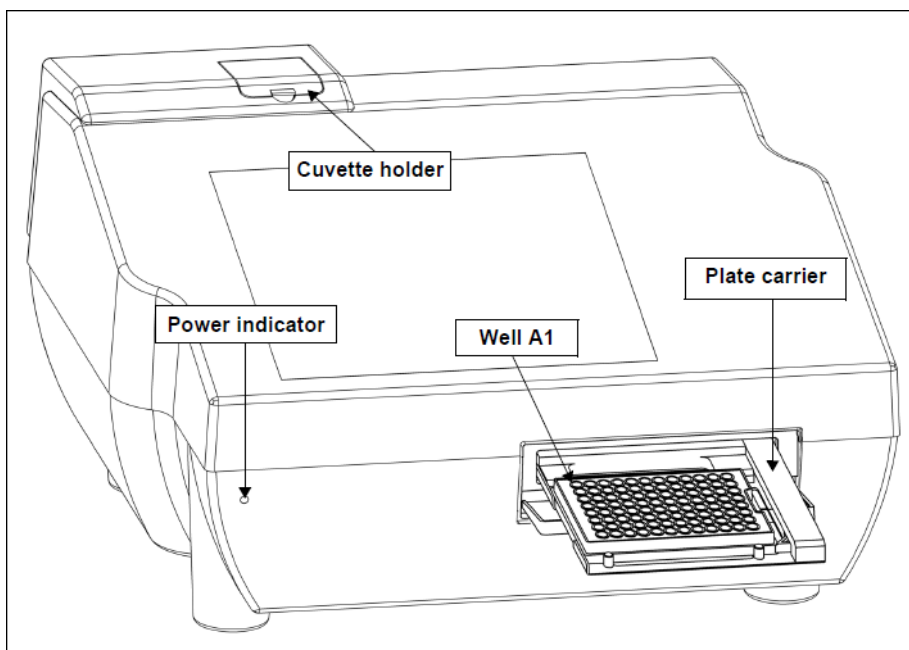

Figure 1-4. Zenyth 200 with plate carrier open
- After turning on the power switch at the rear of the instrument, a power indicator on the front panel indicates the current status of the instrument (Figure 1-4):
2. Place the microplate on the plate carrier with well A1 oriented so that it is in the back left corner of the plate carrier (Figure 1-4).
Cuvettes to be read are loaded manually into the cuvette holder near the back left corner of the instrument (Figure 1-4). When performing measurements, cuvettes are not loaded into the instrument until the lamp output has stabilized. During measurements, the ADAP Software displays a visual prompt onscreen when the cuvette should be inserted in the holder.
1. Open the door to the cuvette holder by hand (Figure 1-4).